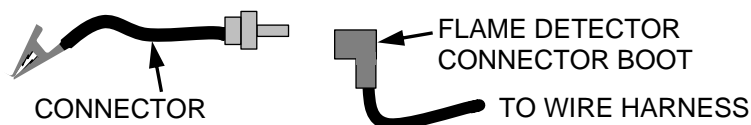

Figure 5-8: Connecting the Flame Signal Generator
- b) When the Controller gets into the ignition phase, it will show **Ignition Trial**. At that point attach the alligator clip (see Figure 5-8) to any bare metal surface or ground. The Controller displays **Flame Proven** and begins to ramp up to 100% fire rate. Note that no gas or flame is present in the boiler at this time.